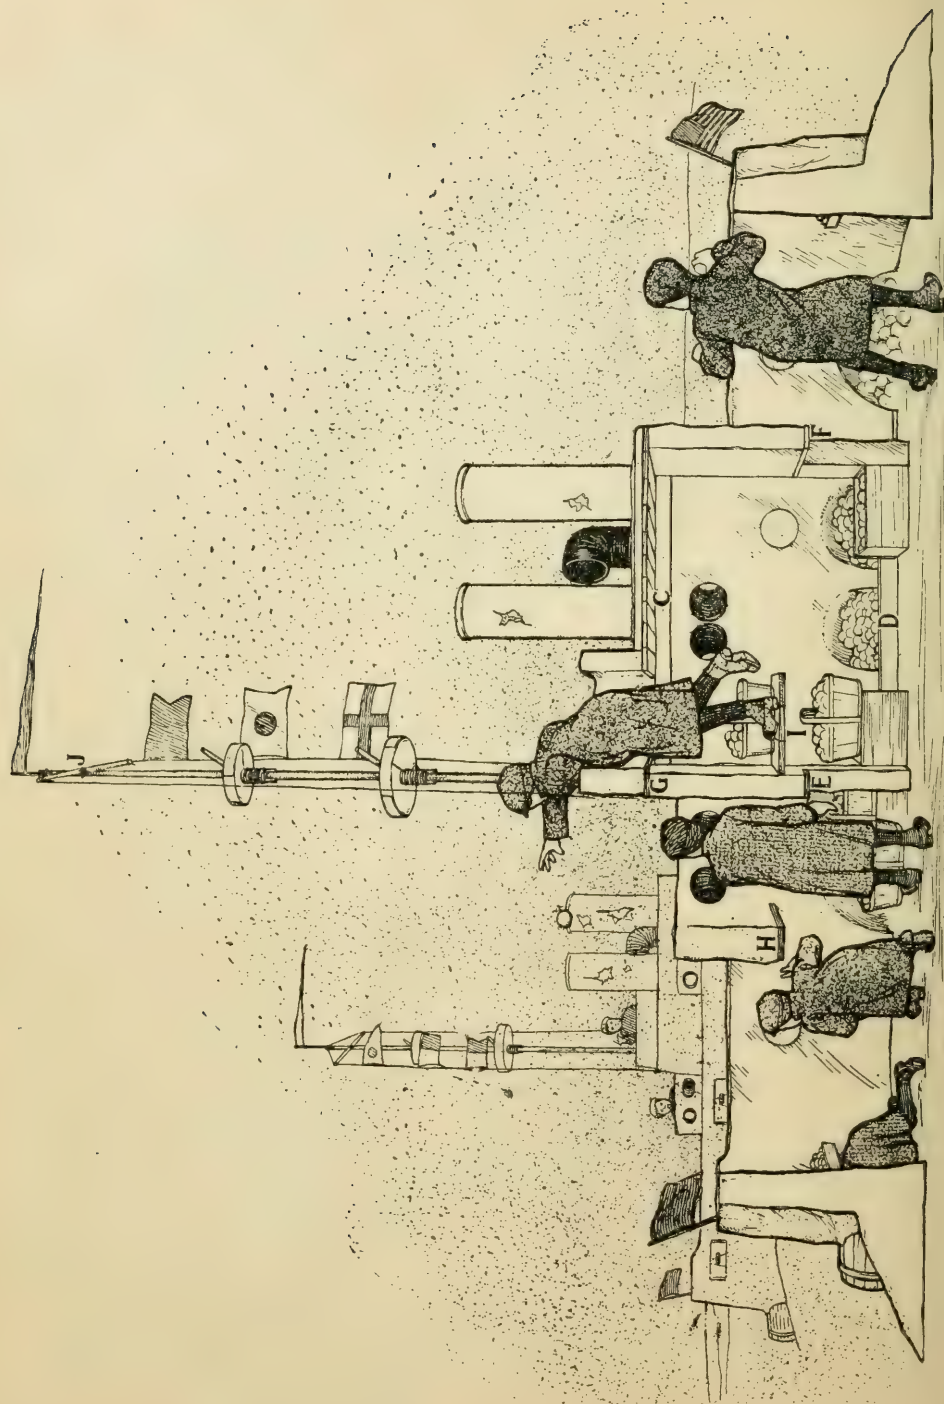

FIG. 363. — Two Battleships in Action, showing a Longitudinal Section of One Battleship.
**A Torpedo Tube** (Fig. 363), and when the sides have reached a height of 30 inches, set the ends of a 4-foot board in them 2 feet forward of the central station (see *H*, Fig. 363) upon which to build the forward turret; at the same height set two or three boards into the walls inside of the framework, at *I* (Fig. 363), for the conning-tower platform. Build up the sides of the hull to a height of 3 feet 6 inches, and inclose the framework of the central station with a 5-inch wall of snow, leaving a passage fore and aft below cross-pieces *E* and *F* (Fig. 363) wide enough to crawl through. Offset the wall above the hull a trifle.
**The Conning-tower** 12 inches above the superstructure deck (Fig. 363), and that of
**The Midship Turret** on to the side of the ship. The shaping of the conning-tower and turrets can be done with a shovel or a shingle. To lessen the apparent height of the hull, bank snow around the base (Fig. 363).
**The Crosstree** should be 2 feet long; tie it securely at its center to the mast at *J* (Fig. 363).
**Paper Signal Flags** (Fig. 363). Pictures of these flags, in color, may be found in an encyclopedia.
**The Construction of the Funnels** is shown in Fig. 367. Unfasten four barrel-hoops and make them 12 inches in diameter, and cut twelve sticks 3 feet 6 inches long. Nail the sticks to the inside face of the hoops (Fig. 367), then cover the framework with heavy wrapping-paper. Place these funnels upon the deck as shown in Fig. 363, and pack enough snow around their bases to hold them in position. For
Figure 363 shows the interior of your ship while in action. This illustration will suggest
**The Captain of the Ship**, whom you must choose beforehand, will command from the conning-tower (Fig. 363), and must appoint the other men to their respective places on the forward deck, in the forward turret, the central station, and aft. He also selects the boy *torpedo boats*.
**For a Naval Battle** there should be at least two ships built with broadsides opposite (Fig. 363). Of course you can have a land and naval battle if the enemy prefer to build a fort, but there will be more fun with battleships. Certain